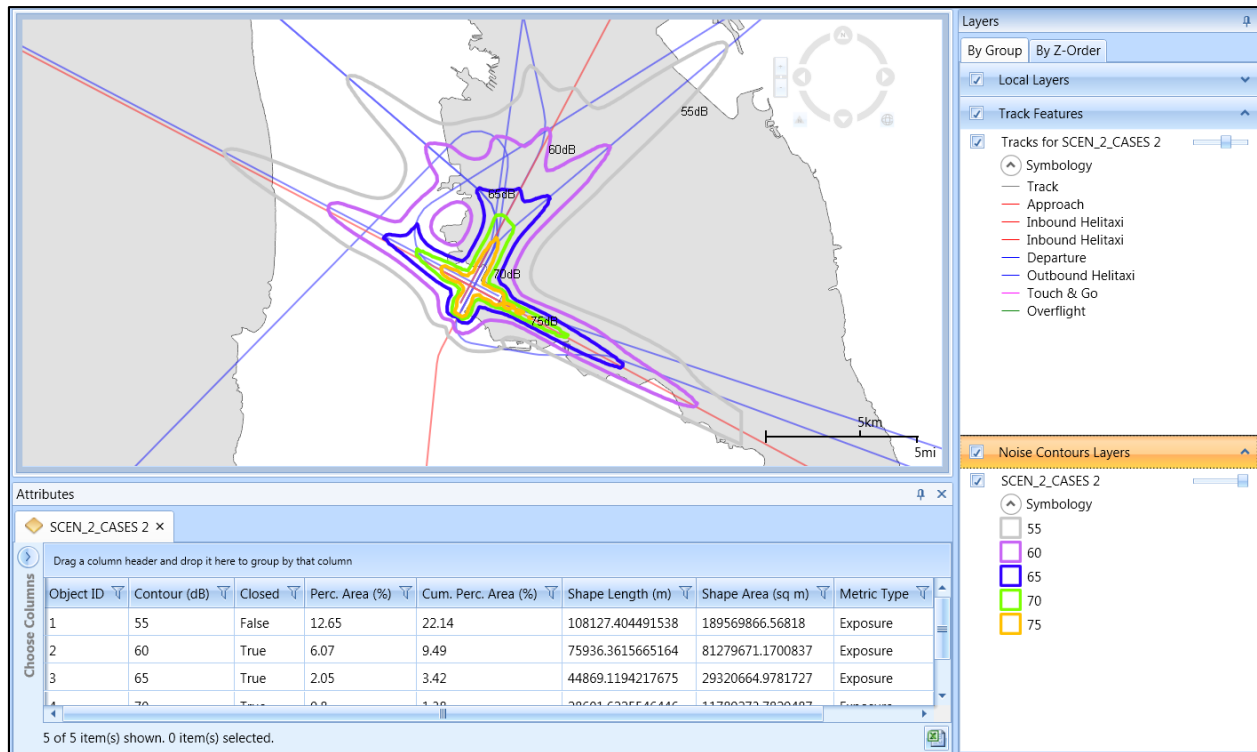

Figure 5-35 Sample Contour Layer with Attributes – shown with Tracks
6. The contour layer is displayed on the map (Figure 5-35) and in the *Layers* manager.
The following attributes are available for contour layers: object ID, contour, closed, area percent, cumulative percent, shape length, shape area, metric type, and metric name (Figure 5-35). See Appendix B.3 for descriptions of the attributes. Perc. Area (%) and Cum. Perc. Area (%) columns are calculated based on the receptor set area or boundary (if used).